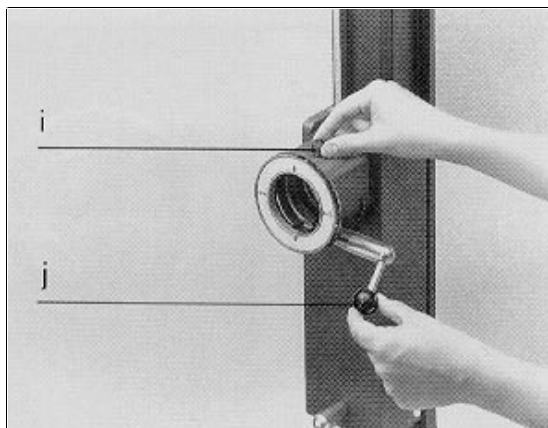

Figure 2-14. Locking Knob and Screw
- a. Loosen the knob (i, figure 2-14) until it is in a vertical position. Also loosen screws (j) by about three full rotations.